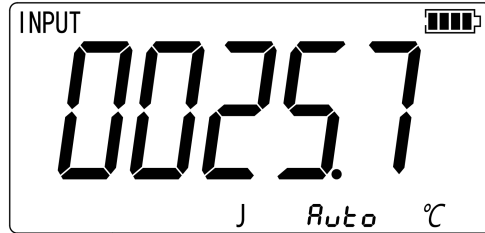

Figure 4-2
3. Press for TC display as shown in Figure 4-2. If desired, pressing continuously to select appropriate thermocouple type.